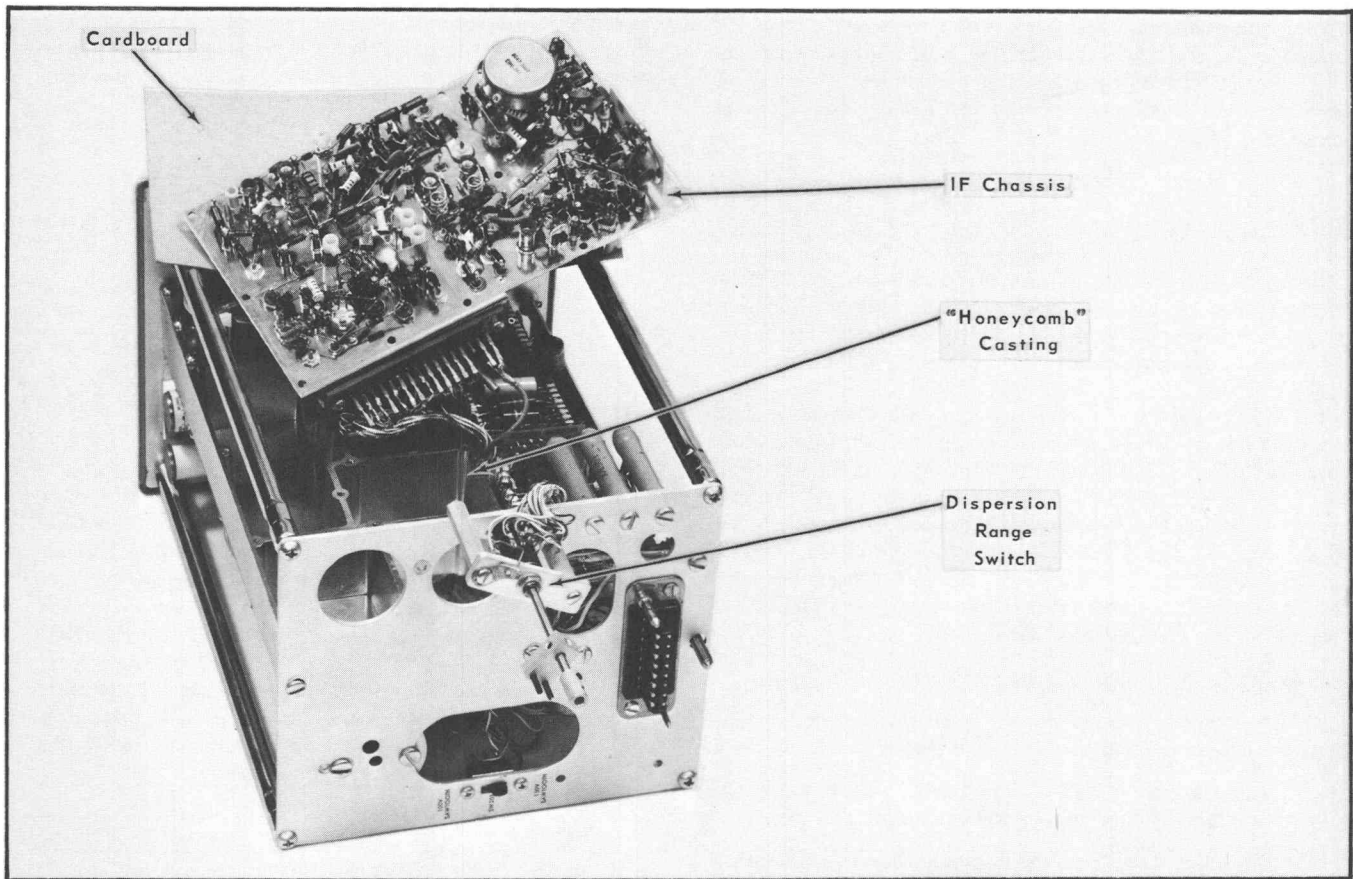

Fig. 4-2. Removing the IF Chassis.
4. Swing the chassis up and out to rest on the instrument's spacer bars (See Fig. 4-2). (It may be necessary to disconnect the coaxial cable from J120, J147, and J401). Do not use force, because some of the parts are critically positioned and should not be moved out of adjustment.